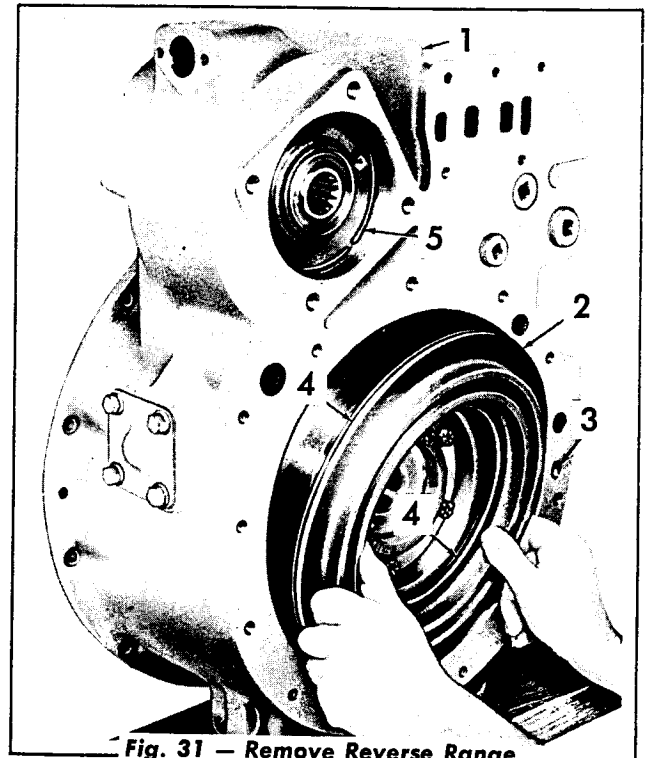

Fig. 31 — Remove Reverse Range Piston Assembly
15. Position the converter housing assembly (Fig. 31) on the oil cooler pad and remove the reverse range piston assembly.